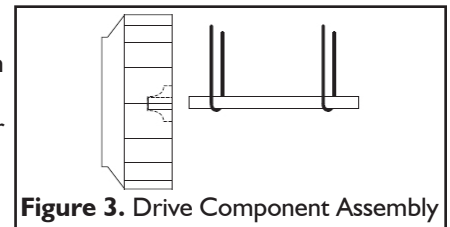

Figure 3. Drive Component Assembly
6. Arrangement 1, 9 or 10: Drive Component Assembly (See Figure 3):